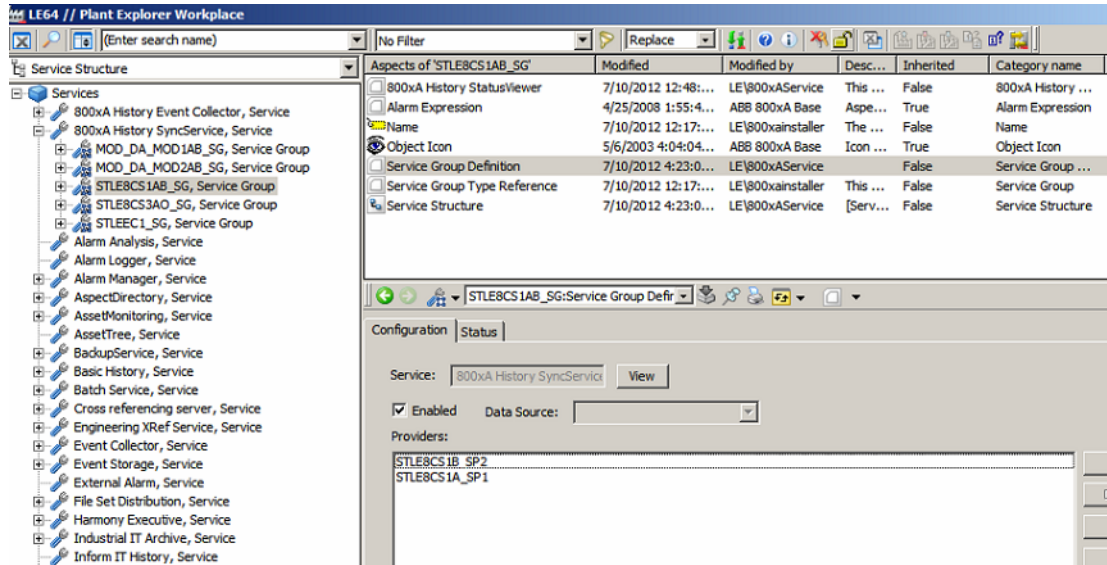

Figure 101. Sync Service in Service structure
3. Select **800xA History Embedded Data Collector Sync Service Group** in Service Structure through 800xA History SyncService, Service as shown in Figure 101.
3. Select **800xA History Embedded Data Collector Sync Service Group** in Service Structure through 800xA History SyncService, Service in the left pane of Service Structure as shown in Figure 101.